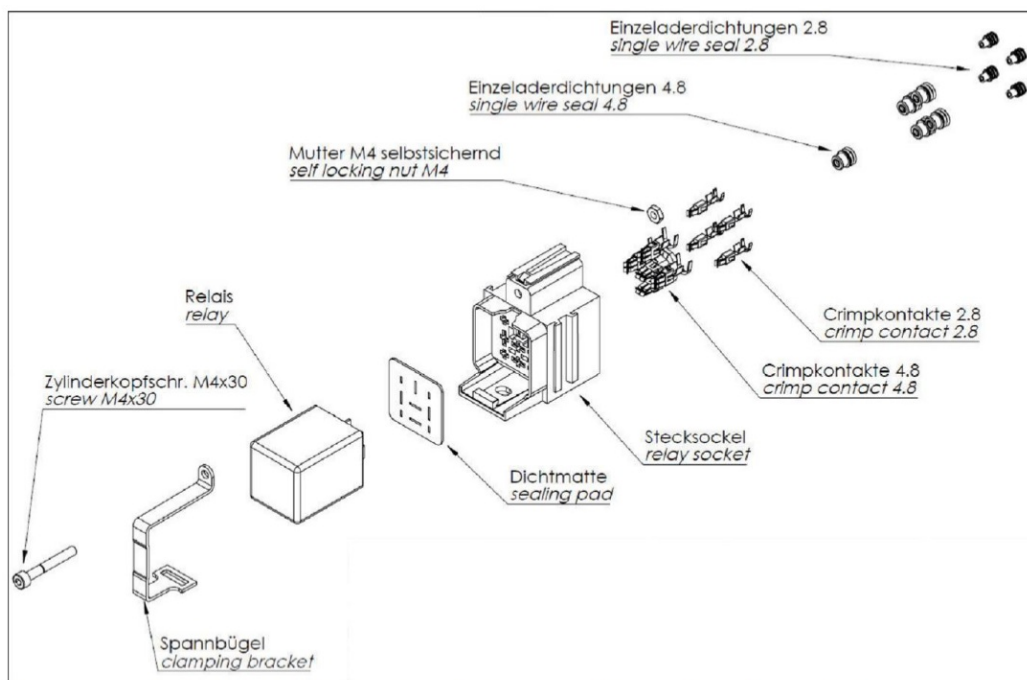
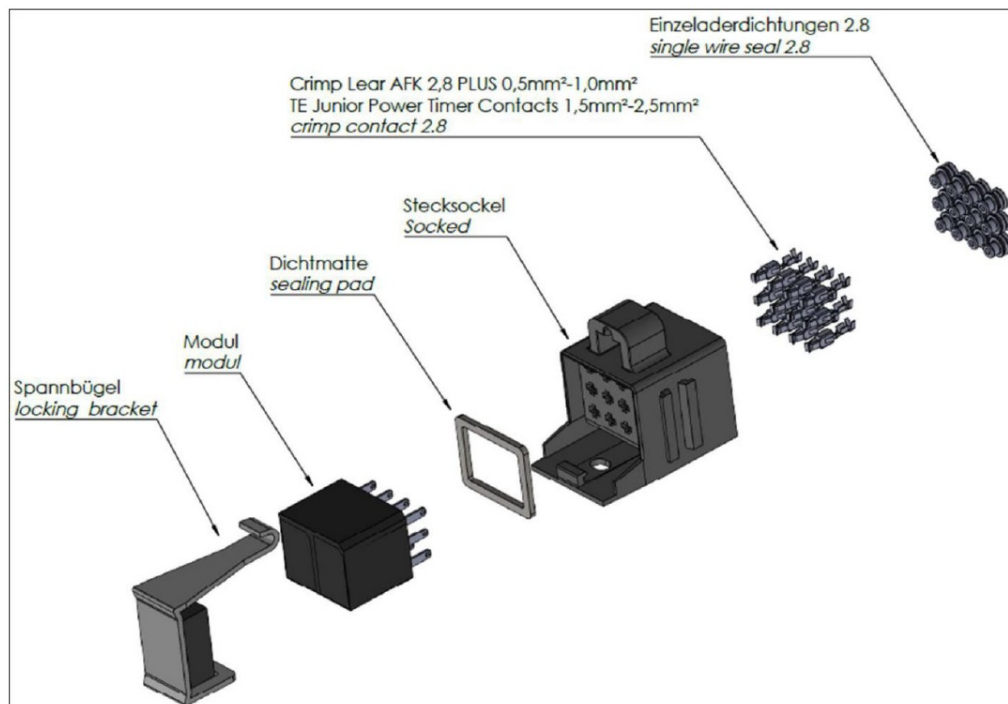

Figure 1: Exploded assembly drawing of the watertight socket (for modules 1.017.010.24, 1.017.010.25, 1.017.010.30, 1.017.010.40, and 1.017.010.50).
Figure 2: Exploded assembly drawing for the watertight socket (for module 1.017.055).
- See also Figure 1 and Figure 2.